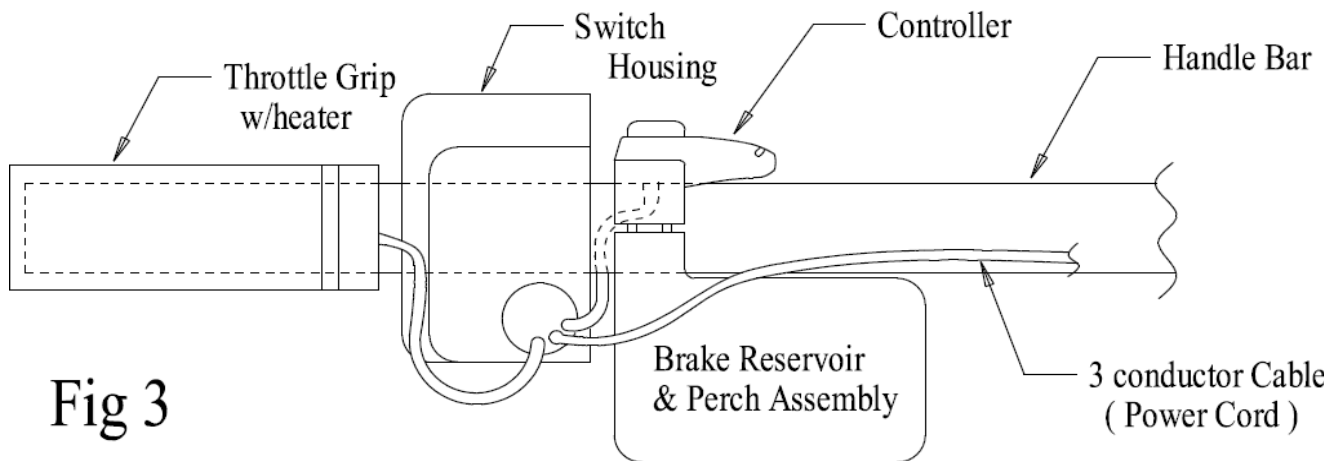

Fig 3
2. The wires from the Controller are connected to the wires from the heaters and the 12V power on the outside of the handlebar, so a second hole needs to be drilled on the other side of the handlebar. Refer to Figure 3 below and mark a location between the switch housing and the brake reservoir where the wires can be routed to the outside. The wire connections and other installation steps will be described later, however Fig 3 shows how the wires will be routed into the switch housing for connections.
11. The 12V power for the Controller and Heaters is supplied by adding the 3 wire cable that is included in the Kit. Route the 3 wire cable from the yoke area of the motorcycle along the handlebar to the area where the Switch Housing is mounted. It will be routed into the switch housing along with the other wires as shown in Figure 3. Add wire ties where needed.
12. Push the 3 wires from the Controller through the hole in the front side of the handlebar and out the backside as shown in Figure 3. Let the Controller hang down 1 inch from the bar.